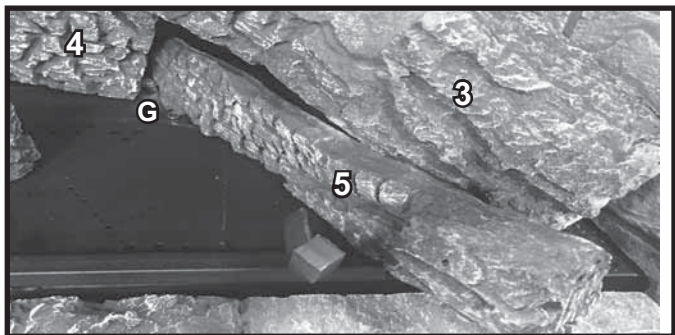

Figure 33. Log #5 Installed
**LOG #5:** The tip of the burnout end of log #5 will contact pin G and the bark end will rest on the grate between tine #4 and log #3. See Figures 33 and 34.